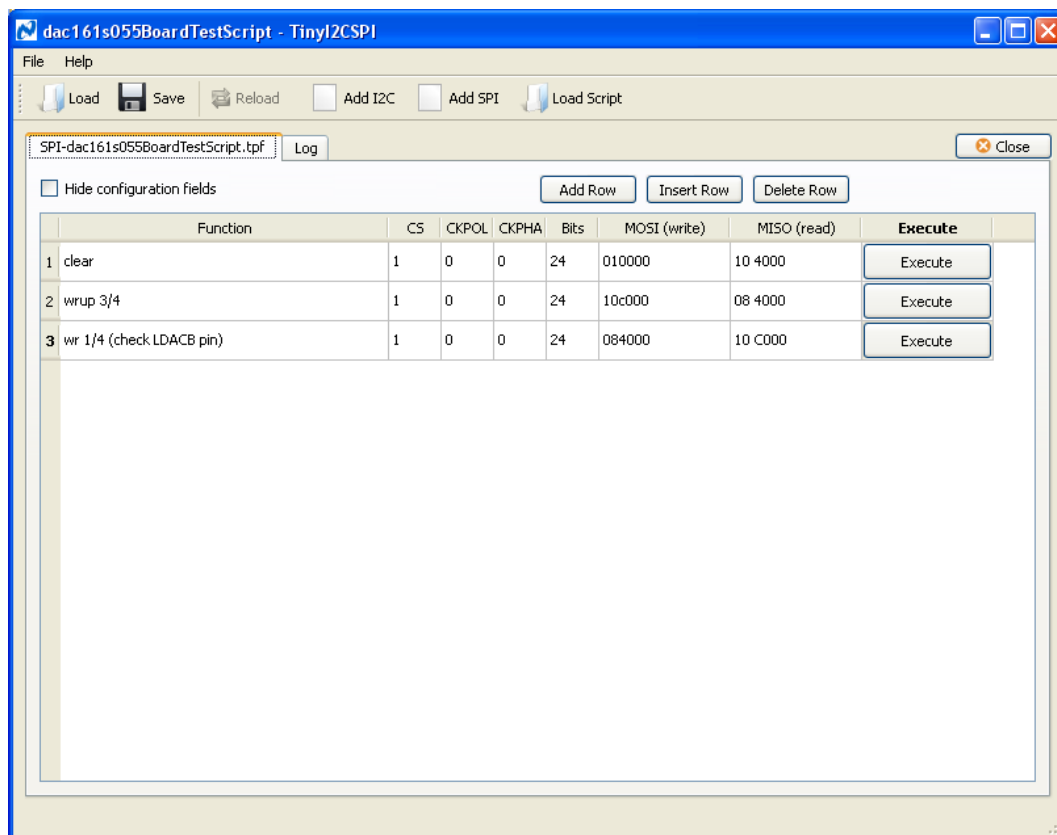

Figure 3: Example commands in TinyI2CSPI interface
- Type the command (in HEX) that you wish to send to the DAC161S055 into the MOSI field. See Figure 3 for some example commands. Pressing “Execute” will send the command to the DAC.